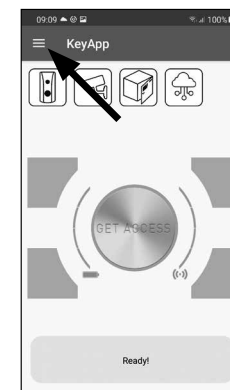

Fig. 16
- ① Open the main menu (Fig. 16).